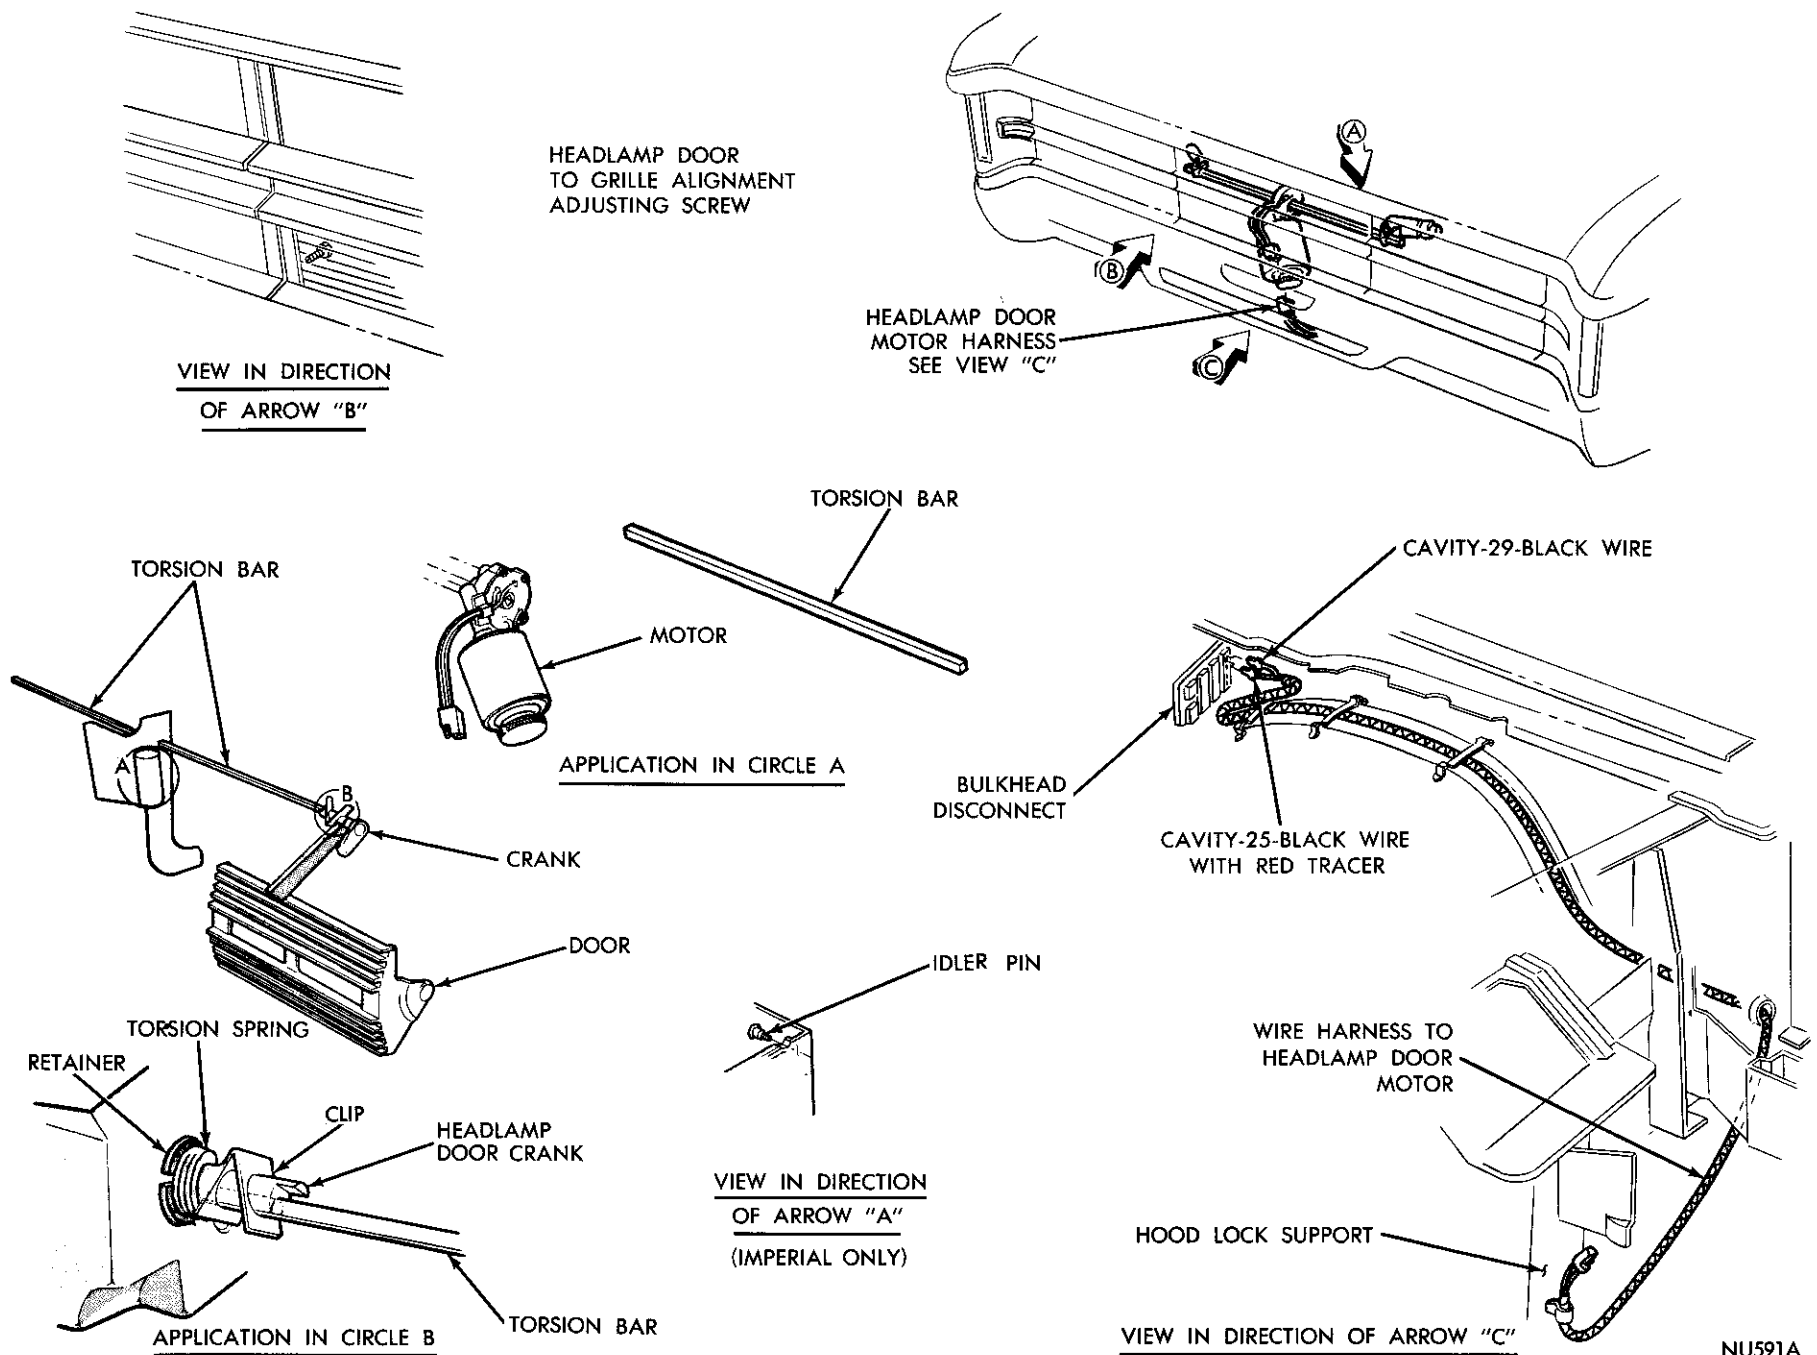

Fig. 1—Concealed Headlamps Adaptation
The headlamp doors (Fig. 1) are electrically operated. A single electric motor mounted on the hood lock vertical support is a series-wound type with two field windings. The motor has a worm gear drive and internal limit switches. A relay and circuit breaker assembly is mounted to the instrument panel lower reinforcement left of the steering column.
(3) Compress torsion bar to headlamp door crank clip and slide clip from crank (Fig. 1).
(5) Remove inboard sealed beam units.
(6) Remove torsion spring and retainer clip from crank assembly (Fig. 1).
(7) Remove screw holding the crank assembly to the door arm at the inboard side of door.
(8) Remove crank assembly from headlamp door.
(9) Remove idler pin from outboard side of door, (Imperial only).
(10) Remove door from opening.